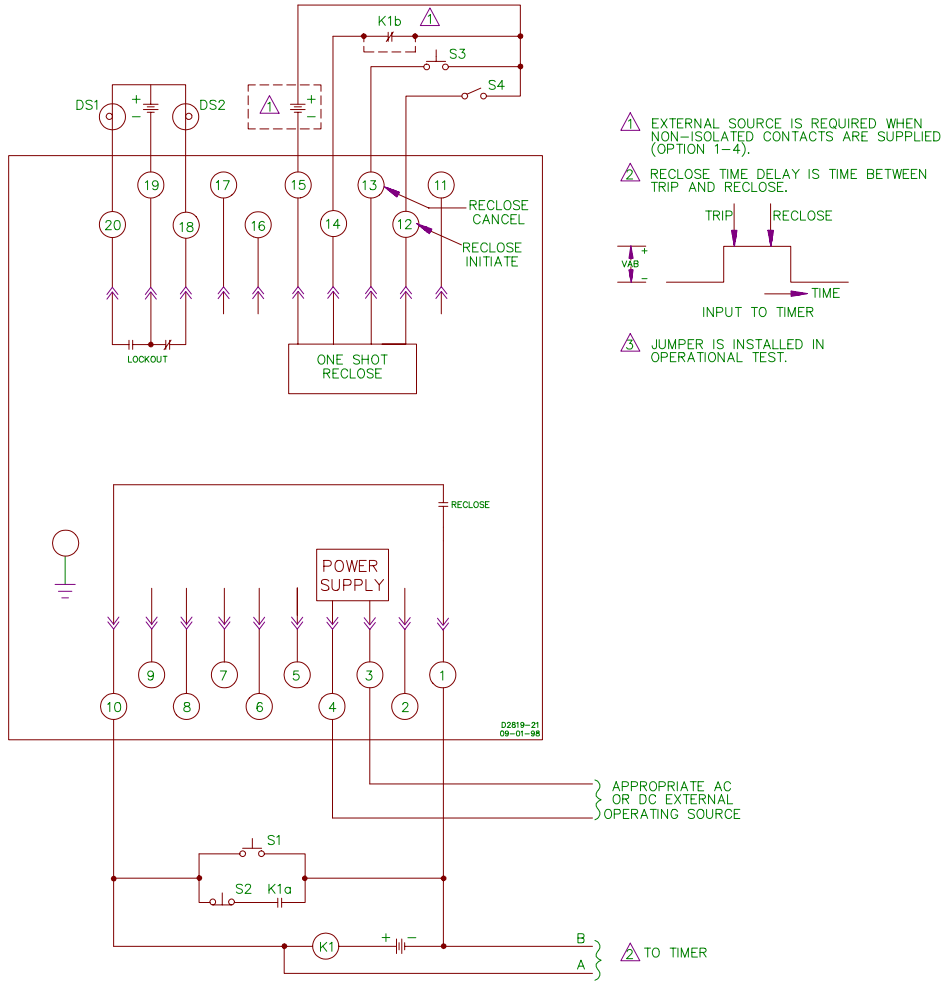

Figure 5-1. Test Setup Diagram (Typical)
Step 1. Connect the relay as shown in Figures 5-1 and 5-2. If equipped with Power Supply Status Output (Option 2-F), and with the unit in a powered-up condition, verify that the power supply status output contact is energized open (terminals 11 and 16). Remove input power and verify that the status output contact closes. Restore input power.
Step 23. (Refer to note and Table 5-1, above) With the relay connected as shown in Figure 5-1, indicators DS1 and DS2 are slaved to the LOCKOUT LED. When the LED is lit, DS1 is on and DS2 is off and vice versa.
Input to timer in STEP 43 is reverse of that shown in Figure 5-1. Voltage goes low on trip and returns to high when reclose signal terminates.
- Step 6. Connect the relay as shown in Figures 5-1 and 5-2.